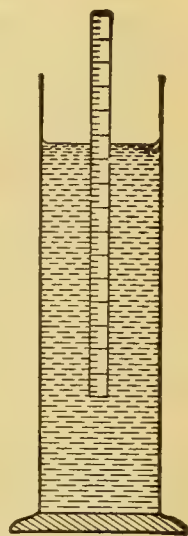

FIGURE 83.
54. Geometrical Solid Lighter Than Water. — A simple illustration shows an easy way of finding the specific gravity of a regular geometrical solid that floats in water. A rectangular wooden block will float in water with the larger portion of its volume immersed (Figure 83). The heavier the block, the deeper it will sink. If such a block 5 cm thick is immersed to the depth of 4 cm, a volume of water equal to four-fifths of the volume of the block is displaced. The buoyant force on the block is equal to the weight of this displaced water. Therefore, the weight of a volume of water equal to four-fifths of the volume of the block must be equal to the weight of the whole block. Otherwise this would not float in the way that it did. That is, the immersed portion of the block is four-fifths as heavy as the equal volume of water that it displaces. Its weight is four-fifths that of an equal volume of water, and its specific gravity is 0.8. It will be noted that *the floating block sinks until the fractional part of its volume which is under water is numerically equal to its specific gravity.*